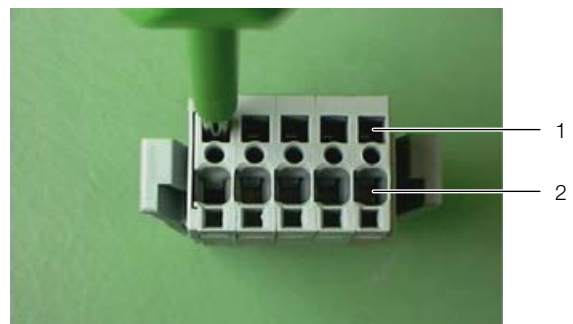

Fig. 41: Connector – rear
- Insert a suitable screwdriver (blade size 3.5 x 0.5 mm) into an activation opening (fig. 41, item 1) and open the corresponding terminal connection of the conductor entry (fig. 41, item 2).